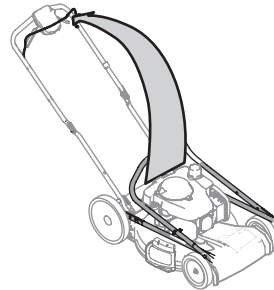

Figure 2
3. While stabilizing mower so it doesn't move, gently lift and pivot the upper handle into the operating position (Figure 2). Make certain the lower handle is seated securely into the handle brackets. Do not crimp control cables while lifting the handle up.